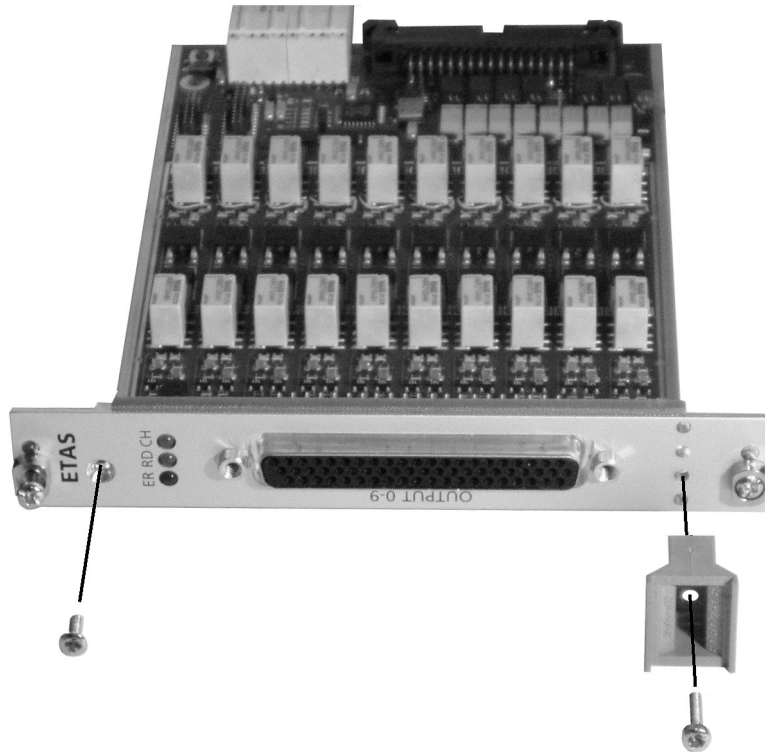

Fig. 4-3 Attaching the Upper and Lower Fastening Screws
- Fasten the front panel at the bottom and the front panel handle to the bracket attached previously using the Pozidrive flathead screw M2.5x16 (Fig. 4-3).